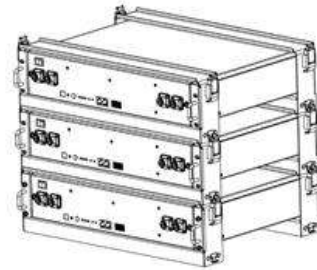

Figure3-8
4. Stack the required number of battery and bracket combinations as described above, and fasten the top and bottom buckles. Shown as Figure3-8.